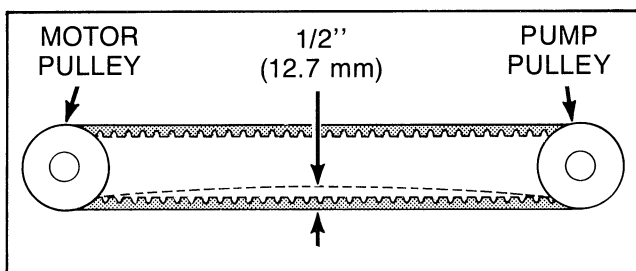

Figure 41
- Shift front of pump mounting bracket to the right or left to obtain proper belt tension. Proper tension is when belt can be deflected approximately 1/2 inch (12.7 mm) from its normal position by applying moderate pressure (1-1/2 pounds - .675 kg.) to a point midway between pulleys, *Figure 41*.